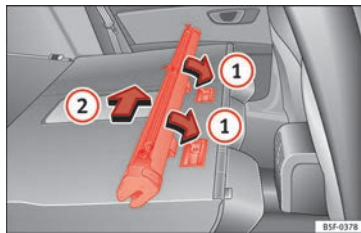

Fig. 169 Assembling the net partition in the rear seat backrests.
- Place the net casing in the rail slots in the direction of the arrows »» Fig. 169 ①.
- Push the casing towards the left side of the vehicle in the direction of arrow »» Fig. 169 ② and as far as it will go.
» Fig. 169 ②.
» Fig. 169 ①.